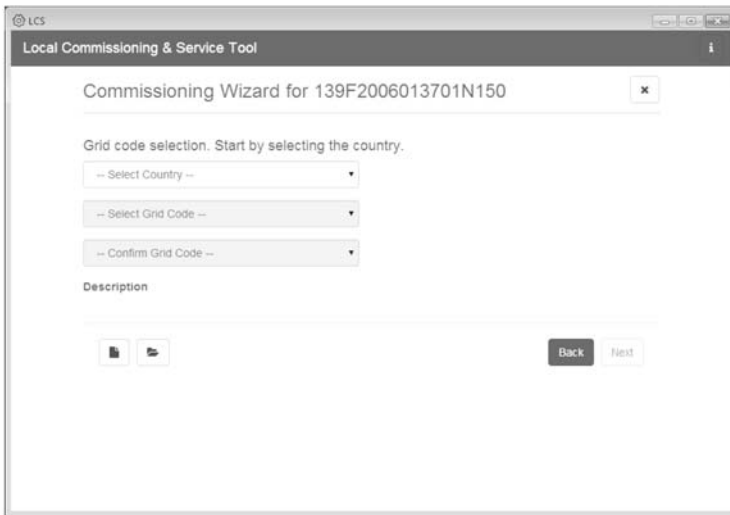

Figure 5.6 LCS tool - selecting the country and grid code
7. Select the desired country from the list of options available for the inverters in the network. See figure 5.6.
8. Select the desired grid code from the list of options available for the selected country. If necessary, load a customer specific grid code by clicking the button **[Load]**. See figure 5.6. The button **[Create]** is inactive and cannot be used.